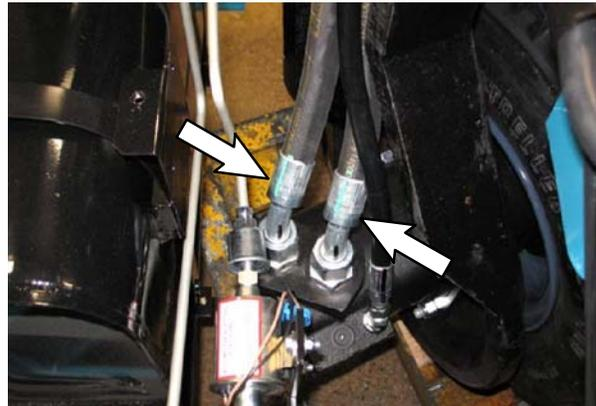
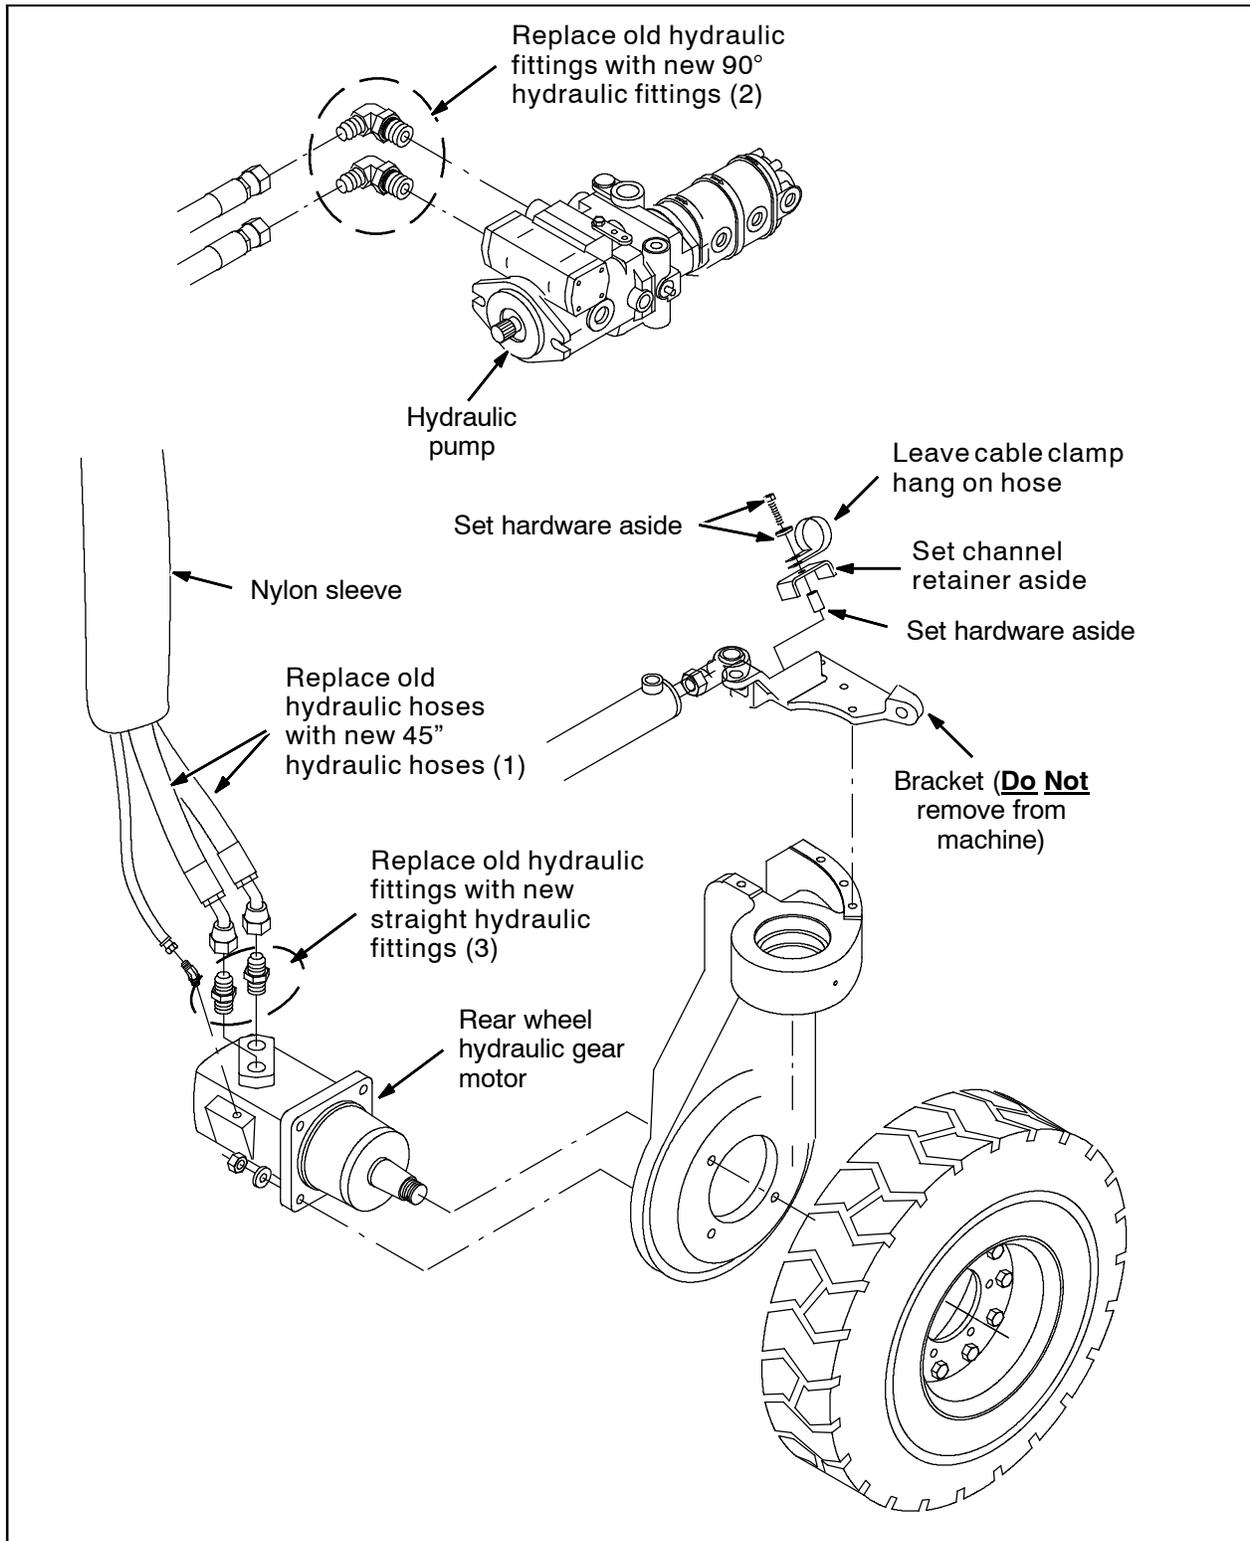
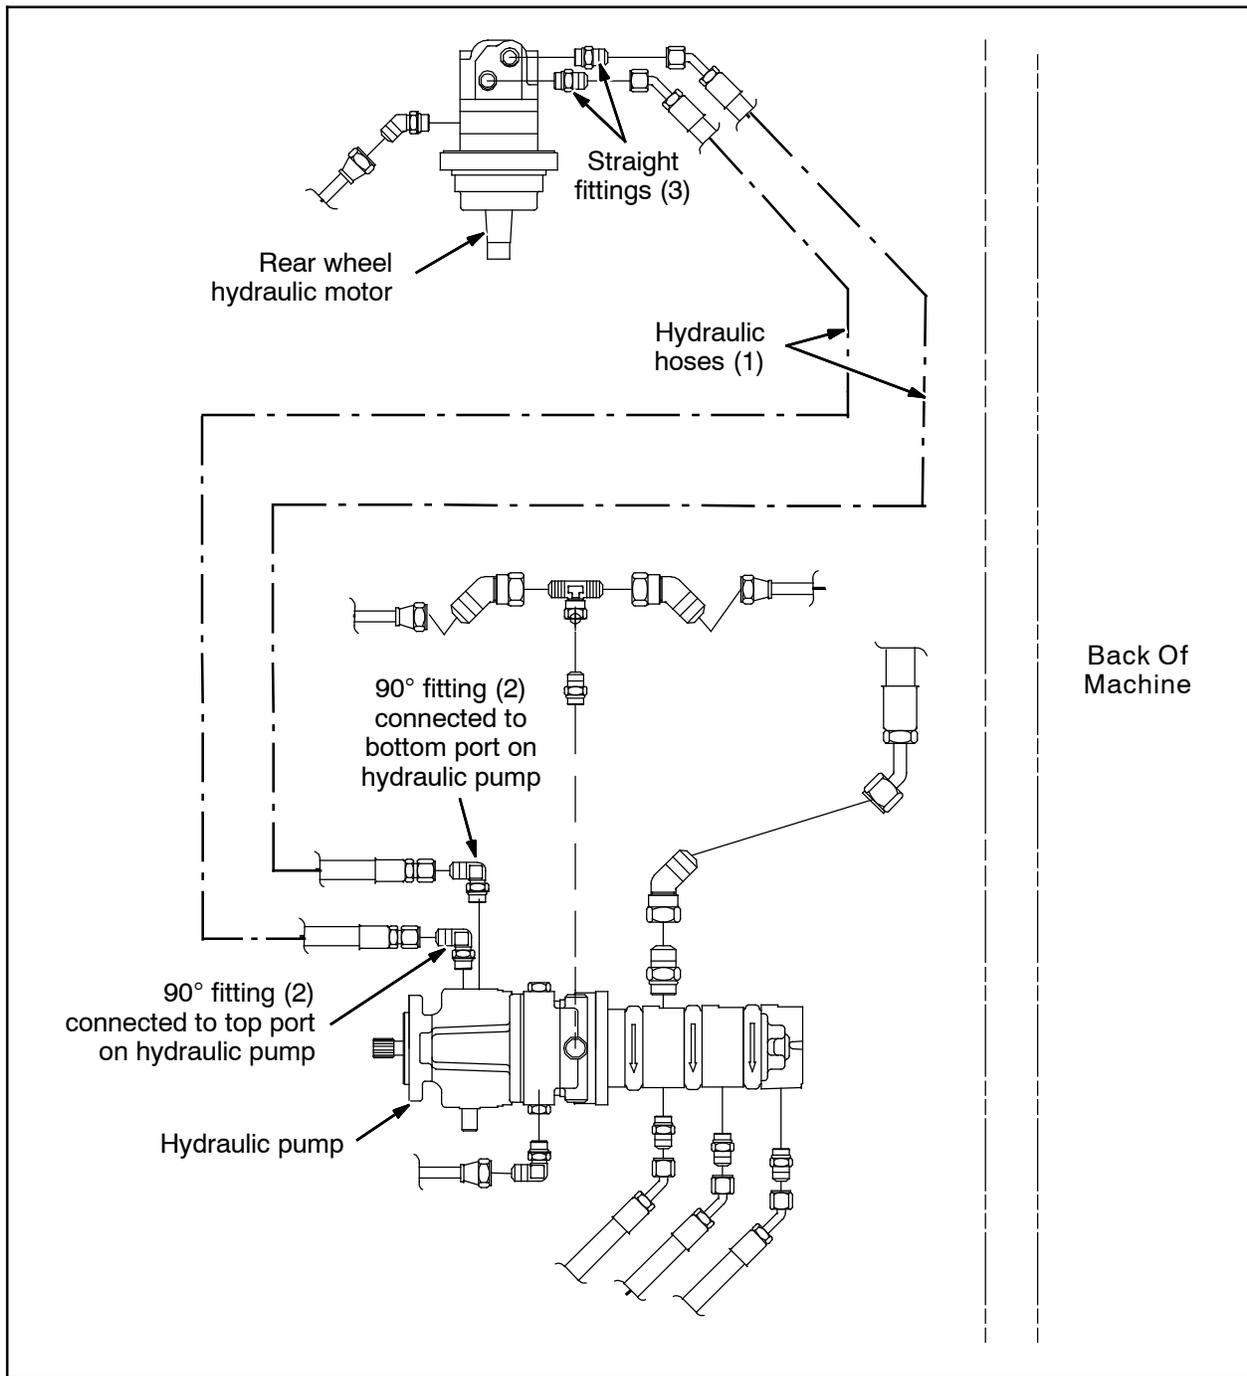
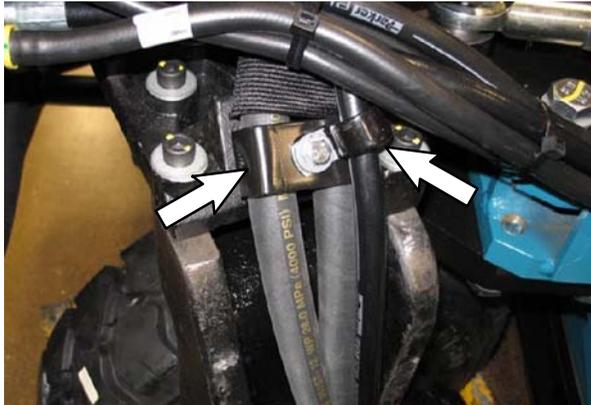

FIG. 4
FIG. 5
FIG. 6
FIG. 7
8. Disconnect the drive hoses from the hydraulic pump. (Fig 3 / Fig. 5)
9. Disconnect the drive hoses from the rear wheel hydraulic gear motor and pull the drive hoses from the machine. (Fig 4 / Fig. 5)
10. Remove the nylon sleeve from the drive hoses. Set the nylon sleeve aside. Discard the drive hoses. (Fig. 5)
11. Remove the 90° hydraulic fittings from the hydraulic pump and the straight hydraulic fittings from the rear wheel hydraulic gear motor. Discard the removed fittings. (Fig. 5)
12. Install both straight fittings (3) onto the rear wheel hydraulic motor. (Fig. 6 / Fig. 5)
13. Install both 90° fittings (2) onto the hydraulic pump. (Fig. 6 / Fig. 5)
14. Use a permanent marker to mark both ends of one of the new hydraulic hoses (1). Hydraulic hoses must be connected to corresponding ports on the rear wheel hydraulic drive motor and the hydraulic pump. (Fig. 6 / Fig. 5)
15. Connect both hydraulic hoses (1) to the rear wheel hydraulic drive motor. (Fig. 6)
16. Slide the nylon sleeve onto both hydraulic hoses (1).
17. Route both hydraulic hoses (1) to the hydraulic pump. (Fig. 6 / Fig. 5)
18. Connect both hydraulic hoses (1) to the hydraulic pump. (Fig. 6 / Fig. 5)
19. Slide the sleeve on the hydraulic hoses (1) toward the hydraulic pump. (Fig. 5)
20. Reinstall the channel retainer and cable clamp onto the machine. (Fig. 7 / Fig. 5)